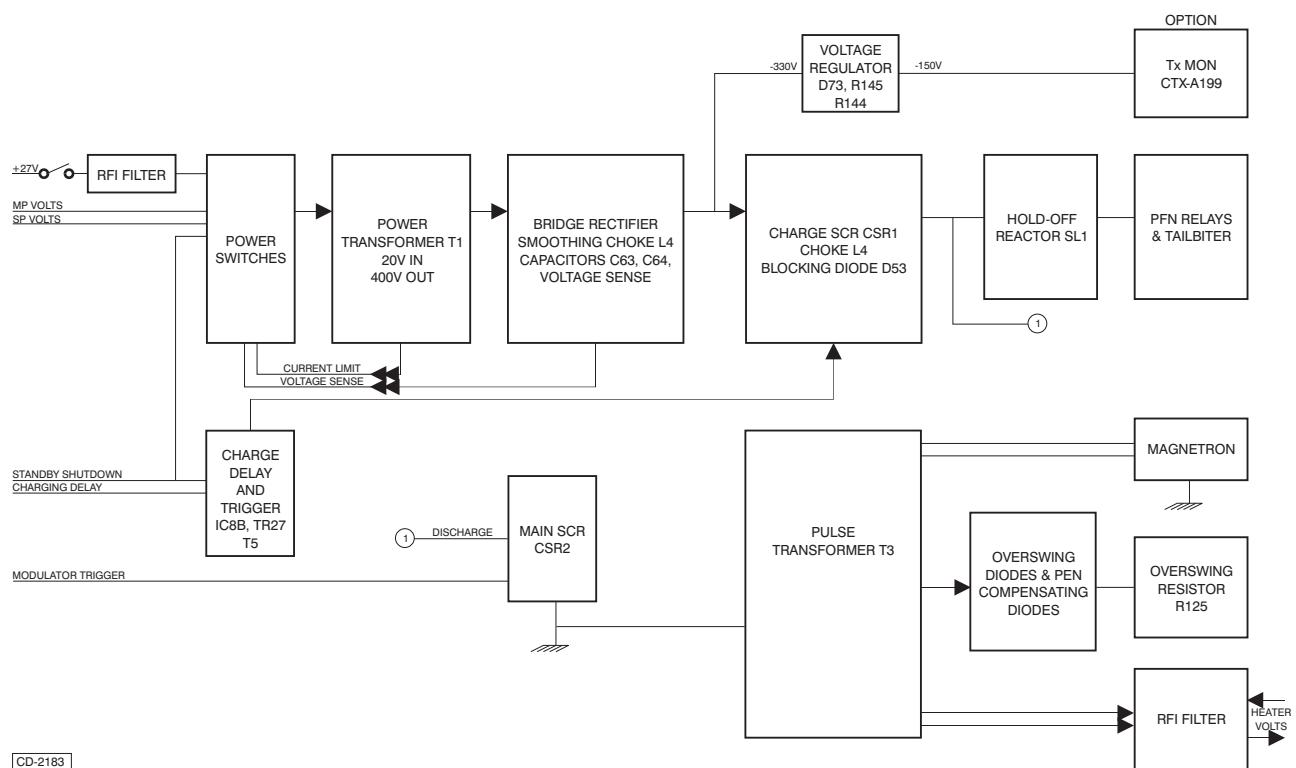

Figure 3a - Modulator Block Diagram
- 10 A block diagram of the Modulator is shown in Figure 3a.